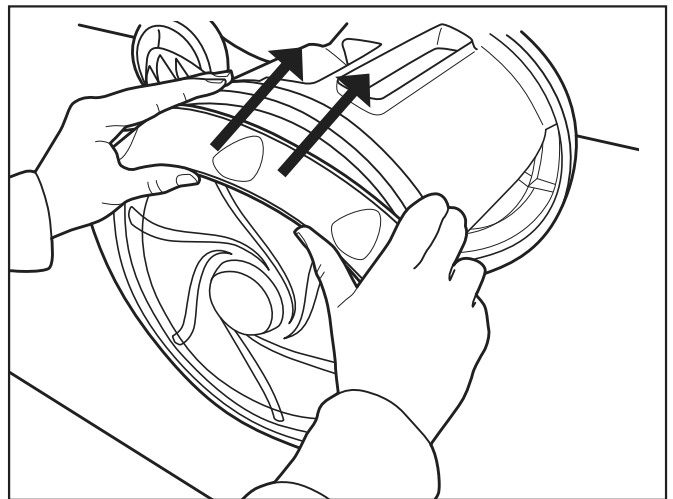

Figure 20. Push Tire onto the Wheel
4. Push one side of the tire on to the wheel and fit the tire onto the wheel as shown in Figure 20.